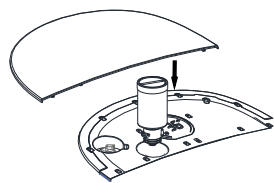
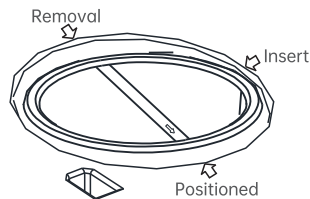

Figure 2
Figure 4
2. Place the foam solution into the product's opening slot, pull out the reserved cap inside the unit, hold the 90° elbow on the cap with one hand, and screw the cap clockwise with the other hand, as indicated by the arrow in Figure 4.
2. As shown in Figure 2, align the arrow on the built-in filter with the arrow marked "Insert" on the upper shell. Push the filter in fully, then rotate clockwise by hand until it reaches the arrow marked "Positioned," indicating proper installation, as shown in Figure 4.